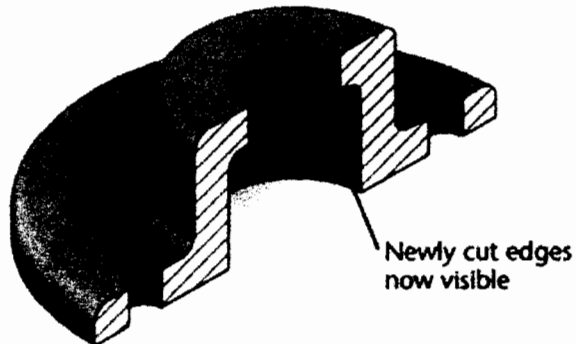
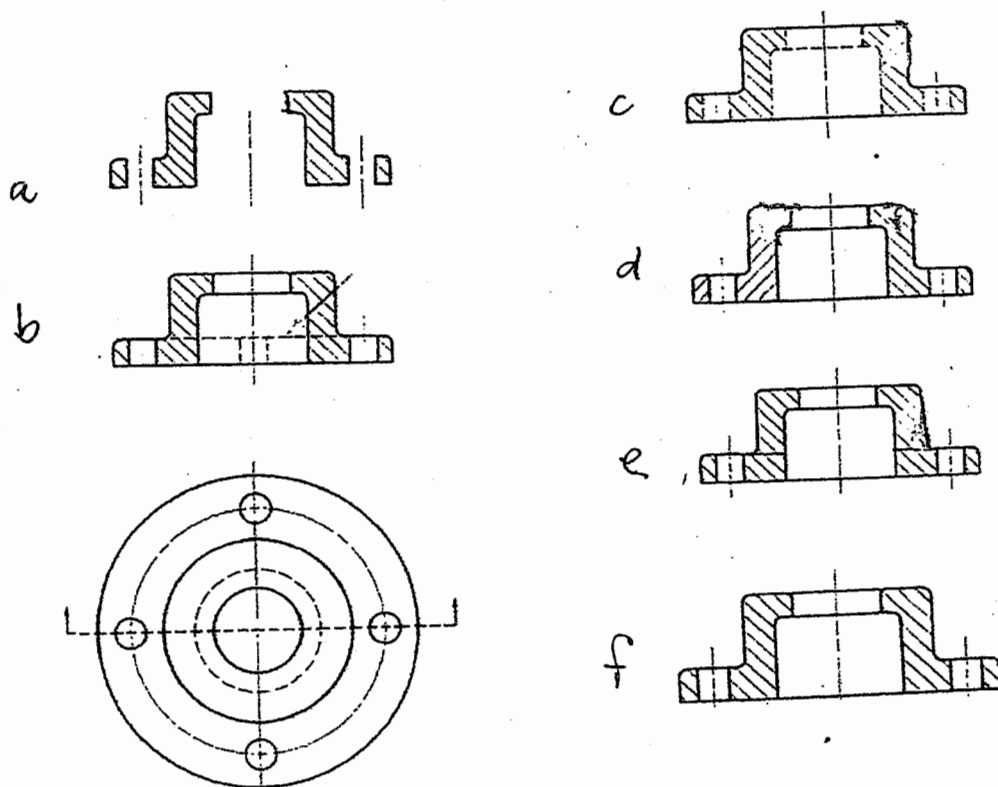

Figure 4a A perspective view of a sectioned flange
Figure 4b Possible sectional views of the flange
- c) Figure 4a shows a sectioned view of a flange in three dimensions. The six possible ways of showing the front view of the sectioned flange are shown in Figure 4b.